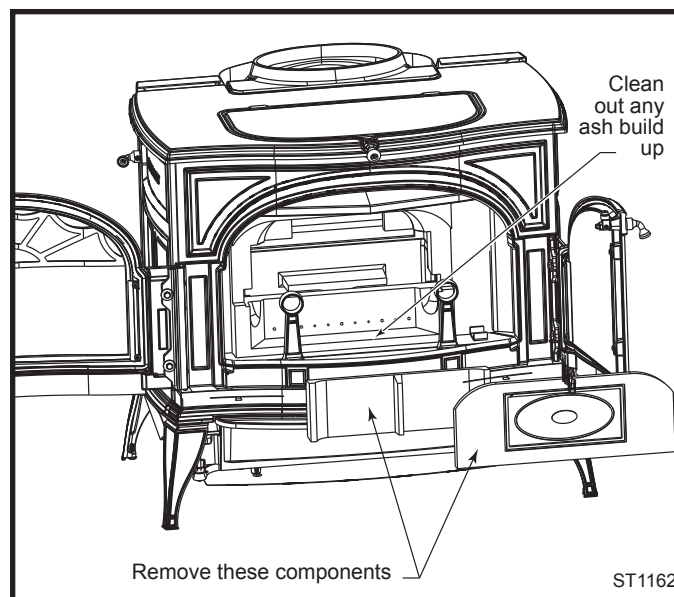

Fig. 47 Inspect and clean out ash accumulation behind the combustion system.
- Inspect for and remove ash build-up behind the combustion package. This should be done in conjunction with annual cleaning of the chimney connector. Inspect the passage behind the combustion package (a mirror will be helpful) and vacuum away ash using a flexible vacuum hose inserted in the passage. (Fig. 47)